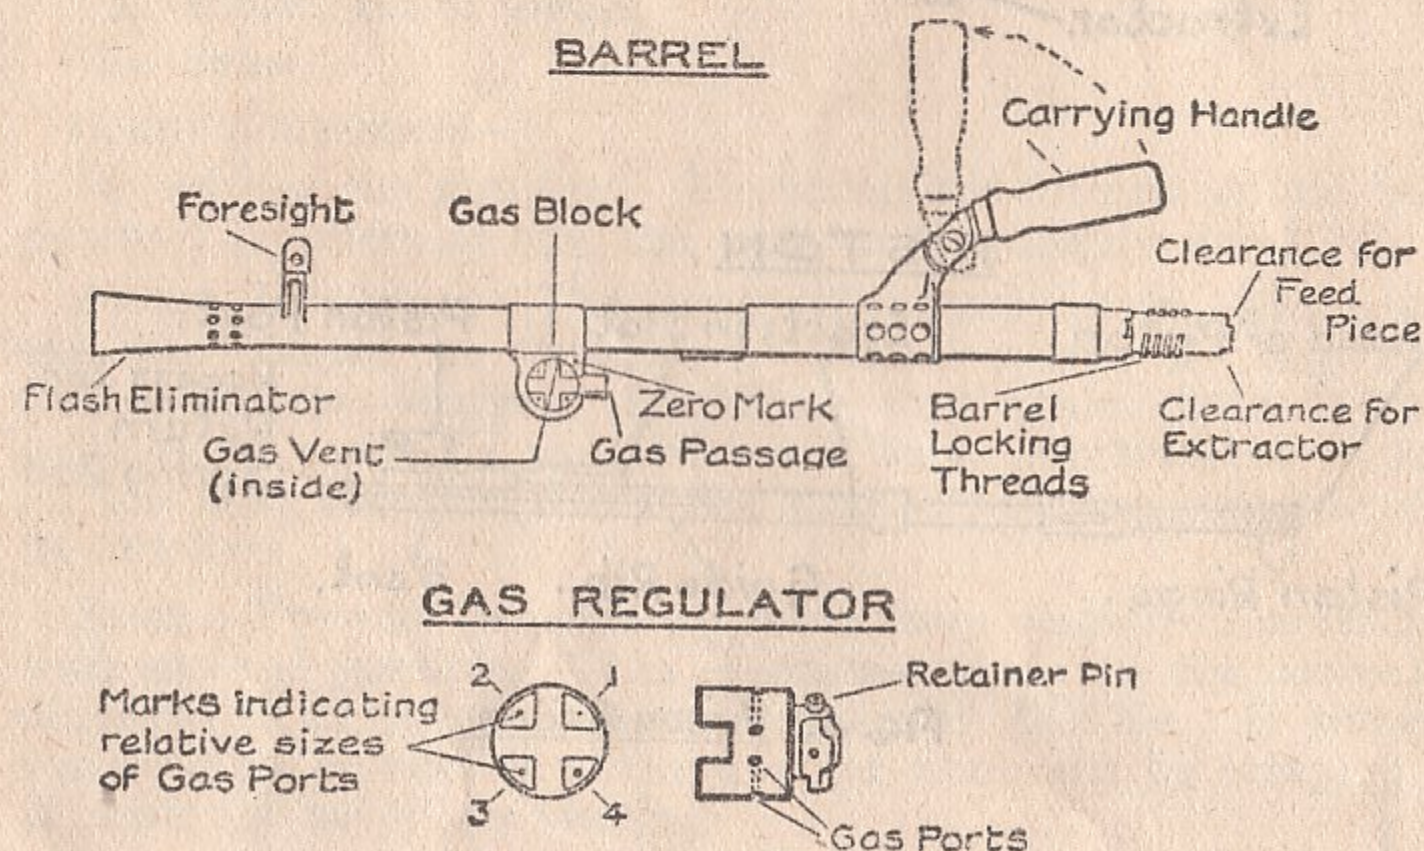

Fig. 6.—Barrel group
- v. Name the principal parts of the barrel group (see Fig. 6).